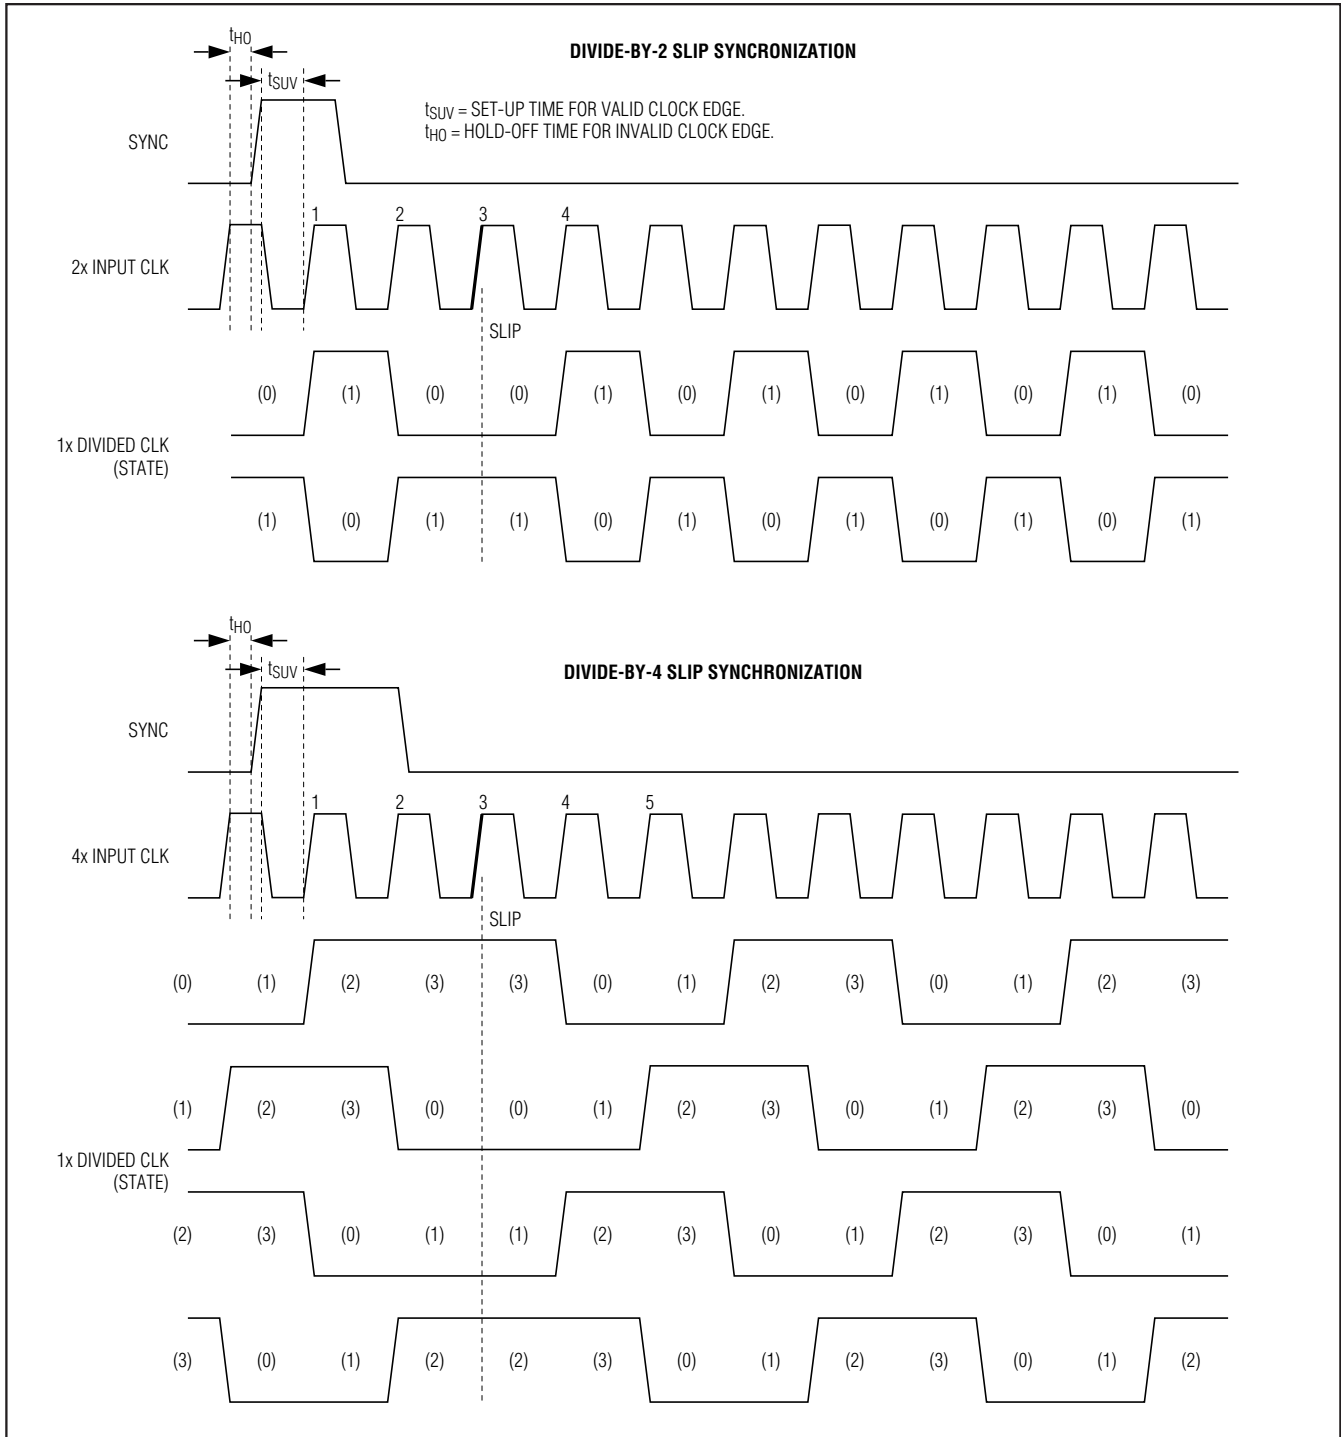

Figure 11. Slip Synchronization Mode
0 = Slip mode (Figure 11) (default)
**Slip Synchronization Mode,  $SYNC\_MODE = 0$  (default):** On the third rising edge of the input clock (CLK) after the rising edge of SYNC (provided set-up and hold times are met), the divided output is forced to skip a state transition (Figure 11).